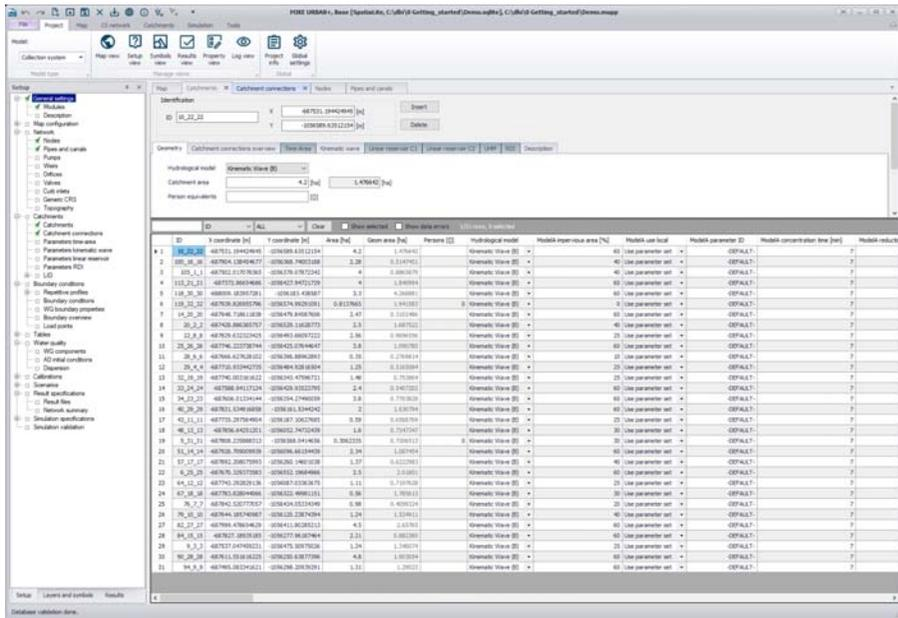

Figure 2.5 MU+ GUI with all editors "docked"
- Docked editors are displayed one-at-a-time. Any editor can be brought to the front by clicking on its tab. This is shown in Figure 2.5 below.
Figure 2.5 shows the MU+ GUI with all editors "docked". In this case only the active editor is visible.